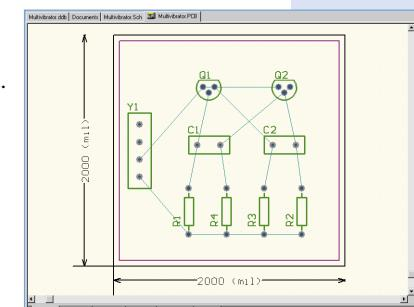

Figure 6
- While dragging the connector, press the **SPACEBAR** to rotate it by 90°, and position it toward the left-hand side of the board (ensuring that the whole of the component stays within the board boundary), as shown in Figure 6.
- Reposition the remaining components, using Figure 6 as a guide. Use the **SPACEBAR** key as necessary to rotate components as you drag them, so that the connection lines are as shown in Figure 6. Don't forget to re-optimize the connection lines as you position each component.